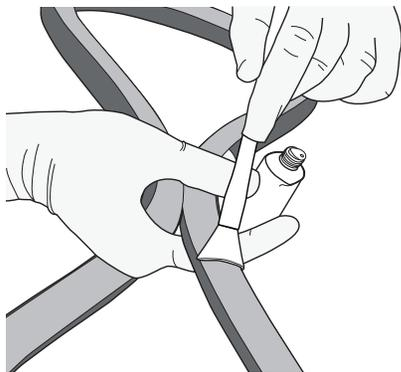

Figure 23. Inflate tire until base tape is exposed. Apply a thin layer of glue.
4. Inflate the tire just until it rolls over and the base tape is exposed (Figure 23).